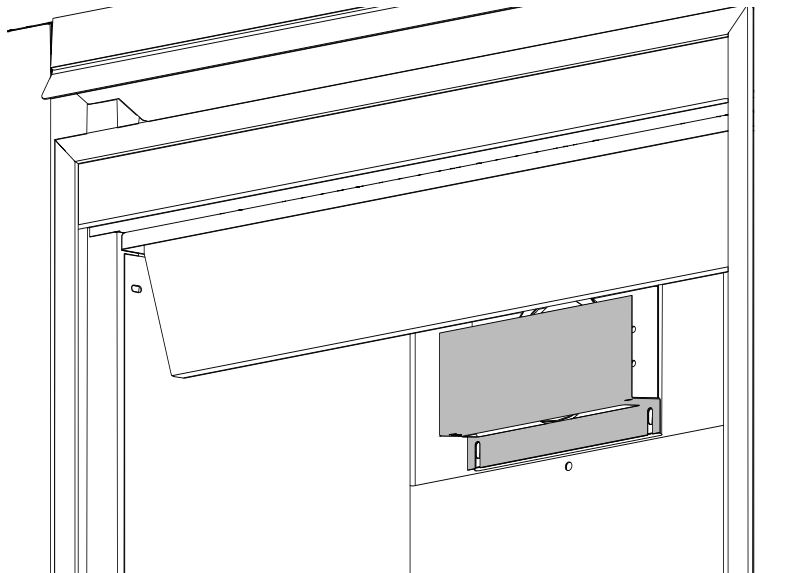

Fig. 1
- B.** Loosen the two screws that secure the exhaust plate, and slide the shield in place by sliding its slotted openings behind the screwheads. Tighten the two previously loosened screws (**Fig. 1**).